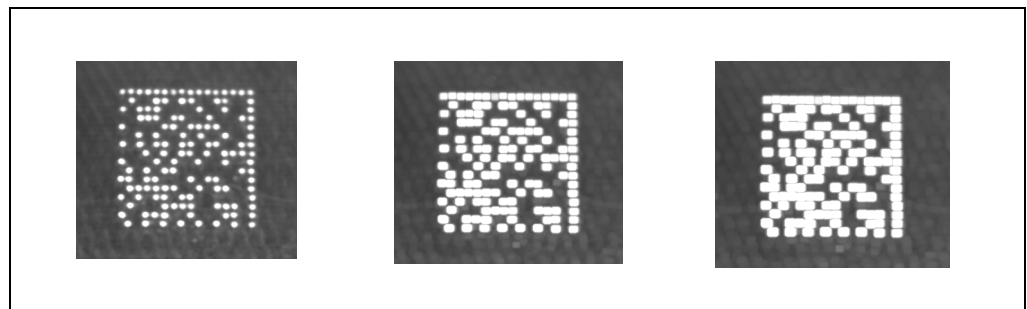

Fig. 10-3: CLV-Setup: using the "Deviation of dot size" slider
*Fig. 10-3* shows an example of using the slider.